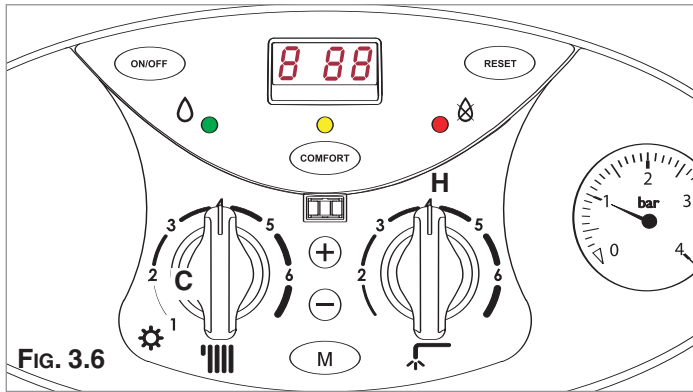

FIG. 3.6
- push the On/off button **ON/OFF** and turn the knob "C" (Fig. 3.6) to the "winter" position. The boiler pump will start up and three consecutive attempts will be made to ignite the burner. After the third attempt, the electronic system will shutdown the boiler, because the supply of gas has been cut off. The message "R 0 1" will appear on the display and the red LED "H" will illuminate;